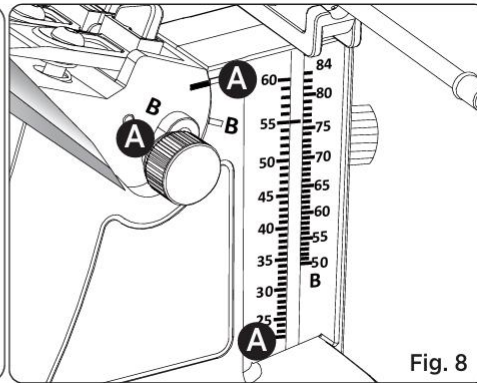

Fig. 8
4. Turn the angle lock knob to move the support bar up or down until the red line aligns with the desired angle on the scale (See Fig. 8). Then tighten the angle lock knob firmly.